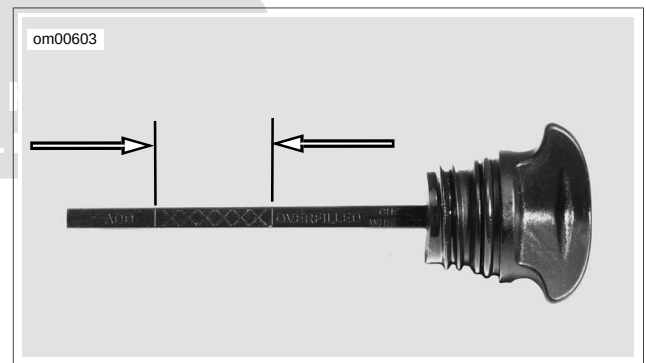

Figure 1-5. Dipstick Oil Level Registration Marks
4. See Figure 1-5. Unscrew and remove dipstick and read oil level.